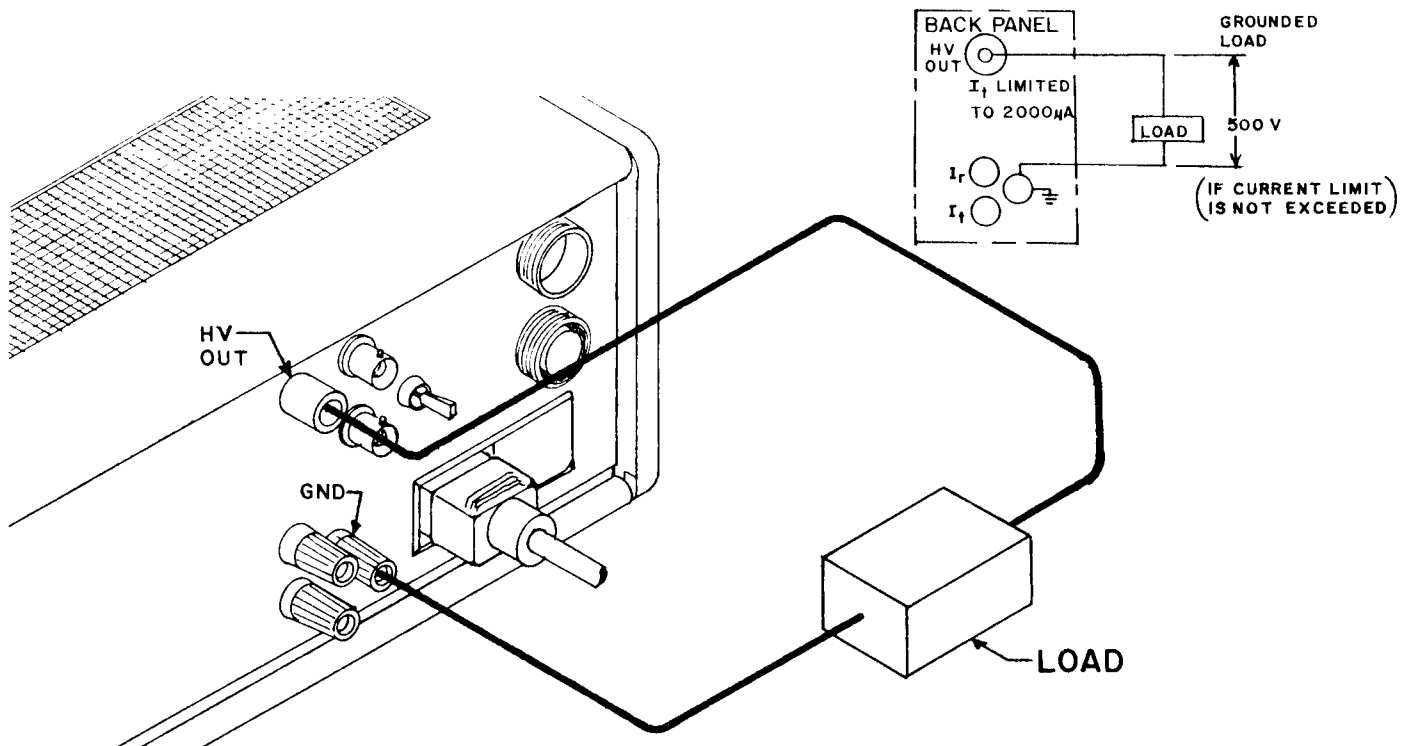

Figure 38. Example of Rear Panel Connections
- b. At the rear panel, make the connections (see Figure 38):